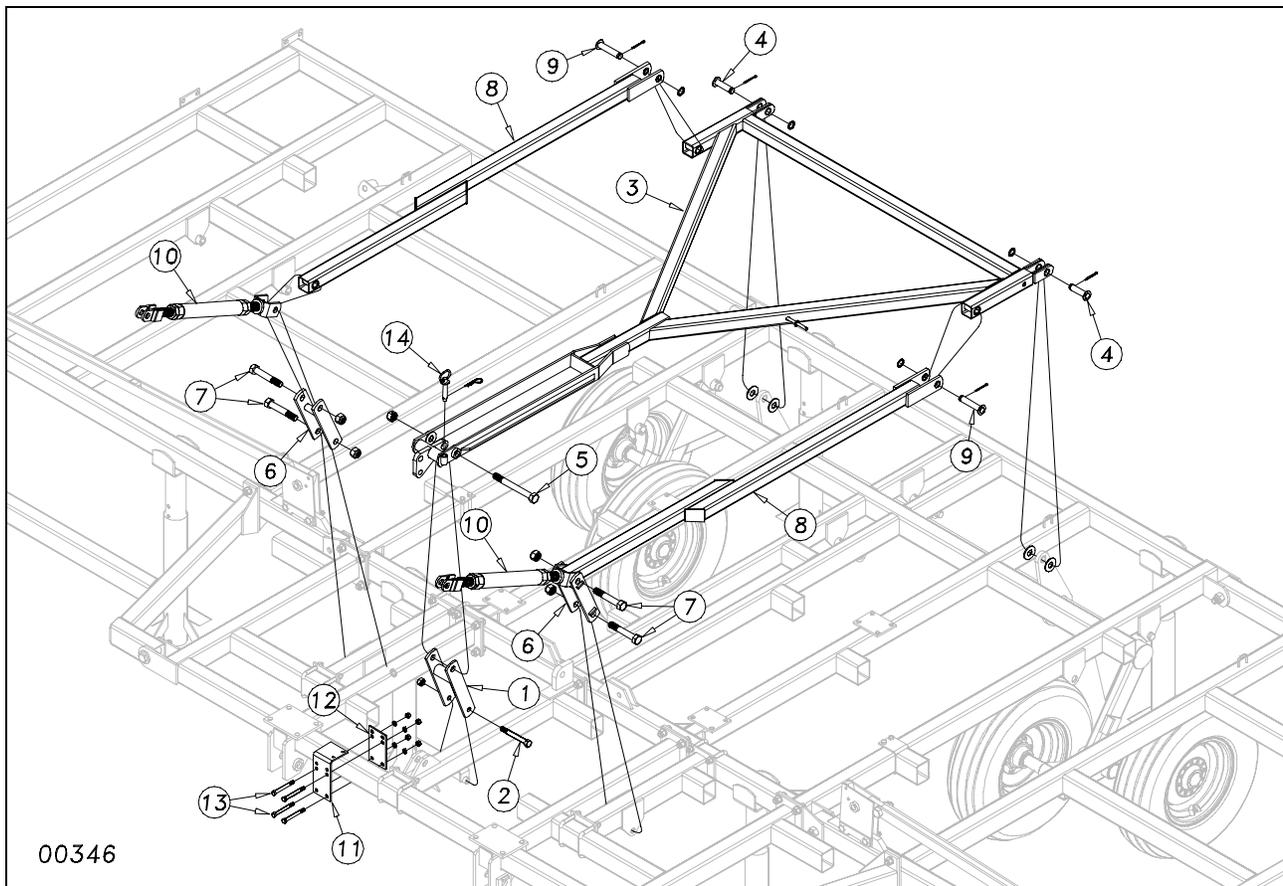

Figure 5
Slide the H-bracket (1) down over the cylinder mount tube as shown in Figure 5. Bolt in place with a 3/4 x 6 bolt (2) and lock nut. Draw this nut up but **do not torque**, as this part must pivot.